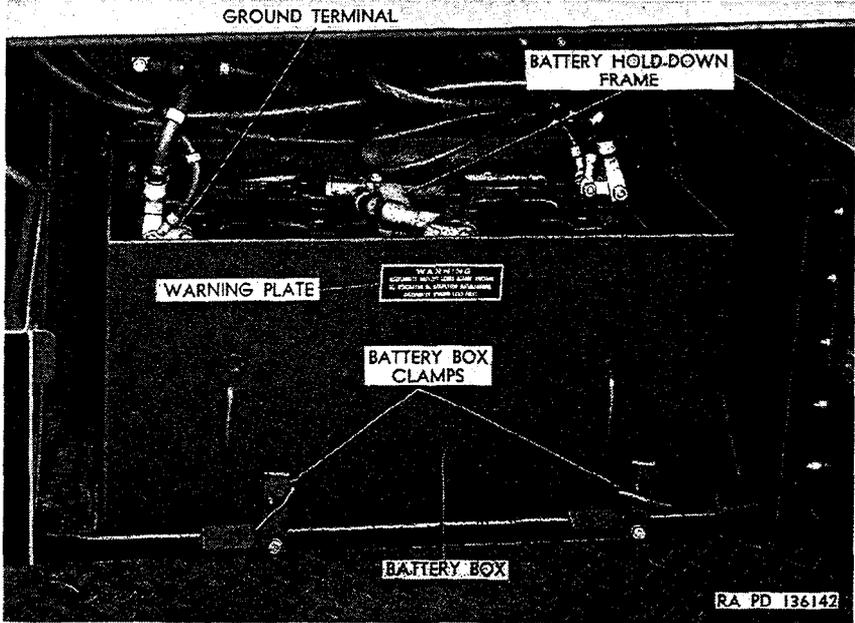

Figure 181. Battery installation.
- (1) *General.* The batteries and lighting system consists of the batteries, vehicle service lights, and vehicle blackout lights. Vehicle service lights include the headlights, parking lights, stoplights, and taillight. Vehicle blackout lights include the blackout driving light, blackout marker lights, blackout stoplight, and blackout taillights. Both service and blackout lights are controlled by the light switch (par. 19) on the instrument panel. In addition, the medium wrecker truck M62 and tractor wrecker truck M246 are equipped with three floodlights and a red flasher light for night crane operation.
- (2) *Batteries.* Two 12-volt, lead-acid-type batteries (fig. 181), located in a compartment directly under the right cab door (fig. 133), are connected in series to supply the 24-volt electrical current required to start and operate the engine and lights when current requirements exceed generator output (par. 149*a*(1)). These batteries are of the submersible-type with special vent plugs which prevent entrance of water into the cells when the batteries are submerged. The terminals are waterproofed with heavy asbestos grease after the batteries are installed. Waterproof cables and harness assemblies (par. 163) are used to connect the batteries to the starter, generator regulator, slave battery receptacle, and radio receptacle.
- (1) *Specific gravity test.* The state of charge in each of the battery cells is determined by checking the specific gravity of the electrolyte (battery fluid) in the cells. Use a hydrometer and thermometer and correct hydrometer reading for temperature in accordance with table VIII. A corrected specific gravity reading of 1.285 in each cell indicates a fully charged battery. A specific gravity reading of 1.225 or less in each cell indicates that battery must be recharged or replaced.
- (2) *Voltage test.* Perform high-rate discharge test according to instructions accompanying test instrument.
- (3) *Adding water.* The water in the electrolyte solution will evaporate at high temperatures or with excessive charging rates. Inspect the electrolyte level and add distilled or clean water, when necessary, to bring electrolyte level to three-fourths of an inch above the separators.
- (4) *Cleaning.* The top of the battery must be kept clean. Tighten vent plugs and clean battery with a brush dipped in an alkaline solution such as ammonia or a solution of bicarbonate of soda and water. After foaming stops, flush top of battery with clean water. If terminals and cable clamps are corroded, disconnect cable and clean as described above for top of battery. Connect cables and waterproof battery terminals by packing with heavy asbestos grease, which is identified by the symbol GK.
b. Removal. Open battery compartment door (fig. 133). Loosen wingnuts on two battery box clamps (fig. 181) and unhook clamps from box. Pull battery box out onto step. To remove front battery, disconnect cables (4, 48, and 49, fig. 180) from positive (+) terminal post and cable (68, fig. 180) from negative (-) terminal post. To remove rear battery, disconnect cable (68, fig. 180) from positive (+) terminal post and cables (7, 50, and 73, fig. 180) from negative (-) terminal post. Remove battery holddown frame and lift batteries, one at a time, from battery box.
c. Installation. Position batteries in battery box with positive (+) terminals of both batteries toward front of truck. Install battery holddown frame. Connect cables (7, 50, and 73, fig. 180) to rear-battery negative (-) terminal post. Connect cable (68, fig. 180) to rear-battery positive (+) terminal post and to front-battery negative (-) post. Connect cables (4, 48, 49, and 81, fig. 180) to front-battery positive (+) terminal post. Waterproof battery terminals by packing with heavy asbestos grease (GK). Slide battery box (fig. 181) into battery compartment, position battery box door, and tighten wing nuts on the two battery box clamps. Close battery compartment door (fig. 133). Test battery installation (*d* below).